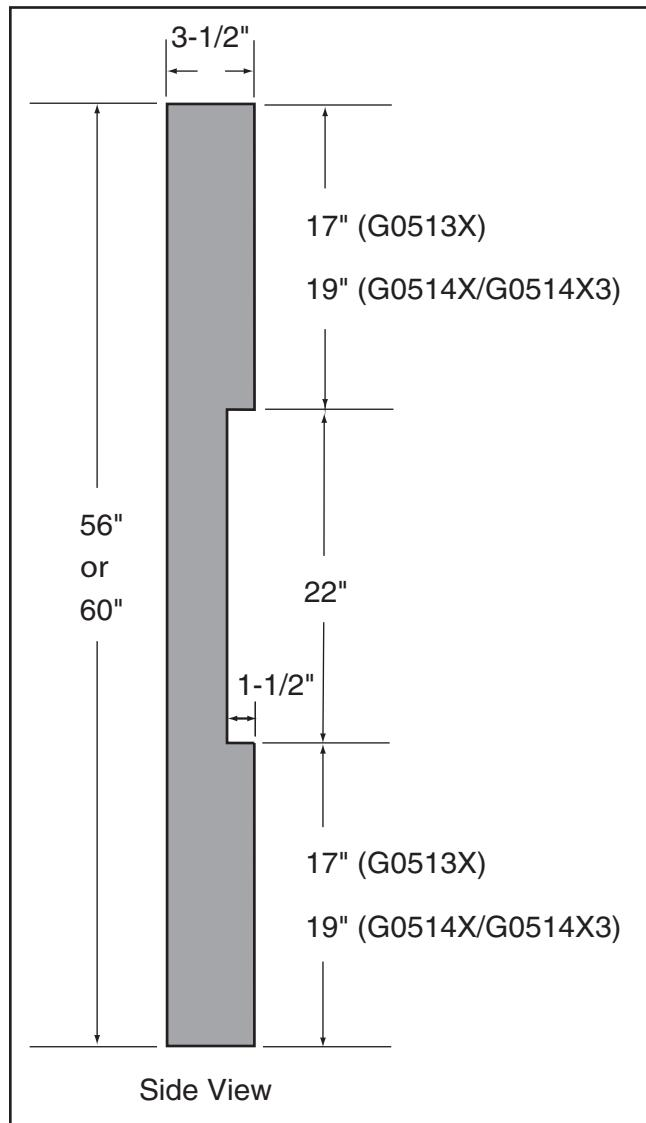

Figure 62. Dimensions of coplanarity gauge.
Coplanarity Gauge (see **Figure 62**) 1
1. Make the "Coplanarity Gauge" shown in **Figure 62**. **Note:** For best results, straighten the 2x4 with a jointer before cutting.